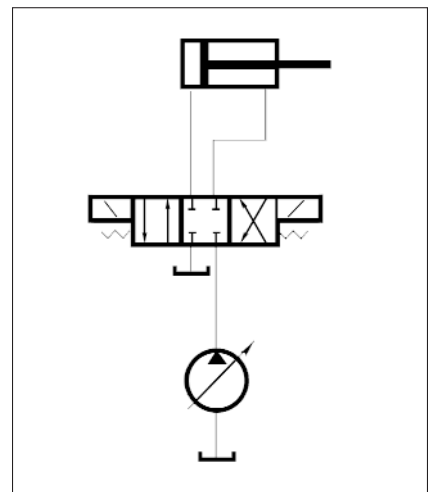
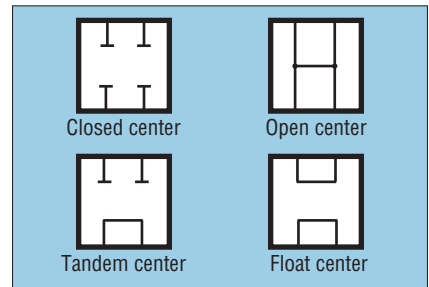

Fig. 2. Schematic shows simple circuit to control cylinder extension and retraction using a 4-port, 3-position spool valve.
Fig. 4. Above are common center-spool arrangements for matching neutral-position fluid routes to the application.
A 4-port, 3-position spool valve serves as a convenient illustration, Figure 2. One port receives pressurized fluid from the pump, and one routes fluid back to the reservoir (or to the atmosphere or exhaust muffler in a pneumatic systems). The other two ports are generally referred to as work ports and route fluid to or from the actuator. In this case, one work port routes fluid to or from the rod end of the cylinder, the other routes fluid to or from the cap end.
The valve represented in Figure 2 can be shifted to any of three discrete positions. As shown, in the neutral position, all ports are blocked, so no fluid will flow. Shifting the valve to the right routes fluid from the pump to the rod end of the cylinder, causing its piston rod to retract. As the piston rod retracts, fluid from the cylinder's cap end flows to the reservoir. Shifting the valve to the left routes fluid from the pump to the cap end of the cylinder, causing the piston rod to extend. As this occurs, fluid from the rod end of the cylinder flows to the reservoir. Returning the valve spool to the center position again blocks all flow. (In reality, a relief valve would be provided between the pump and directional valve. It is omitted here for simplicity.)
grated circuit to provide the same functionality as the spool valve represented in Figure 2. With all valves in the neutral condition, as shown, fluid flow to and from the pump, reservoir, and actuator is blocked. Energizing valve A routes pressurized fluid to the cap end of the cylinder, causing the rod to extend. Simultaneously energizing valve D routes fluid from the cylinder's rod end to the reservoir. In similar manner, energizing only valves B and C causes the rod to retract and routes fluid from the cylinder's cap end to the reservoir.
The valves in Figure 3 are arranged to match the closed-center spool condition of the valve in Figure 2. An open-center condition, Figure 4, could be achieved simply by making all the digital valves normally open (NO) instead of normally closed. Likewise, tandem and float-center configurations can be accomplished by using NO and NC digital valves.